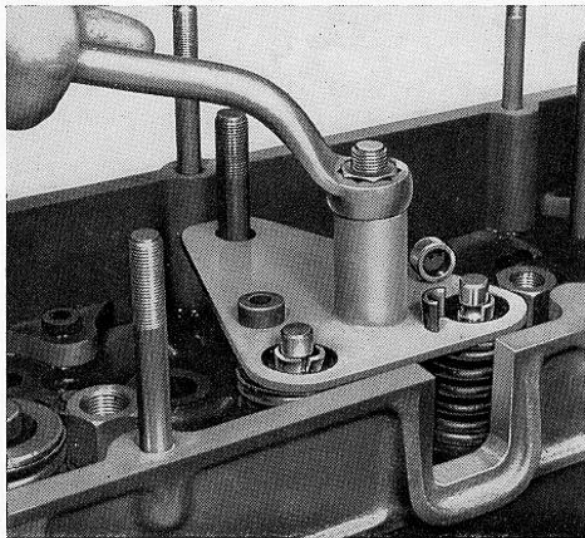

FIG. 11. VALVE SPRING COMPRESSING TOOL
3. Using the valve spring compressor, compress the valve springs and extract the split cone (Fig. 11). Remove the valve collar with the rubber sealing ring, thus releasing the valves and springs, allowing them to be withdrawn.